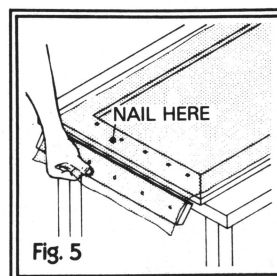

Fig. 5
5. To pull screen tight lengthwise on the frame, place a board against the bottom of the frame. Nail screening to the board. Slip the frame to the edge of the table so that the board nailed to the screen can be bent downward. This tightens the screen for nailing (fig. 5).